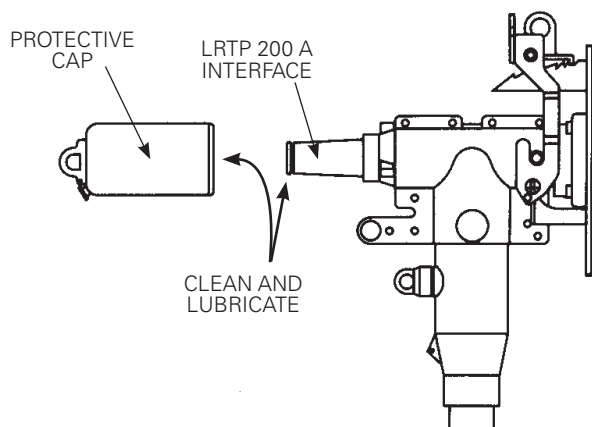

Figure 14. Line illustration of protective cap installation.
- To cap interface, follow installation instructions supplied with apparatus used. (Refer to Figure 14.)